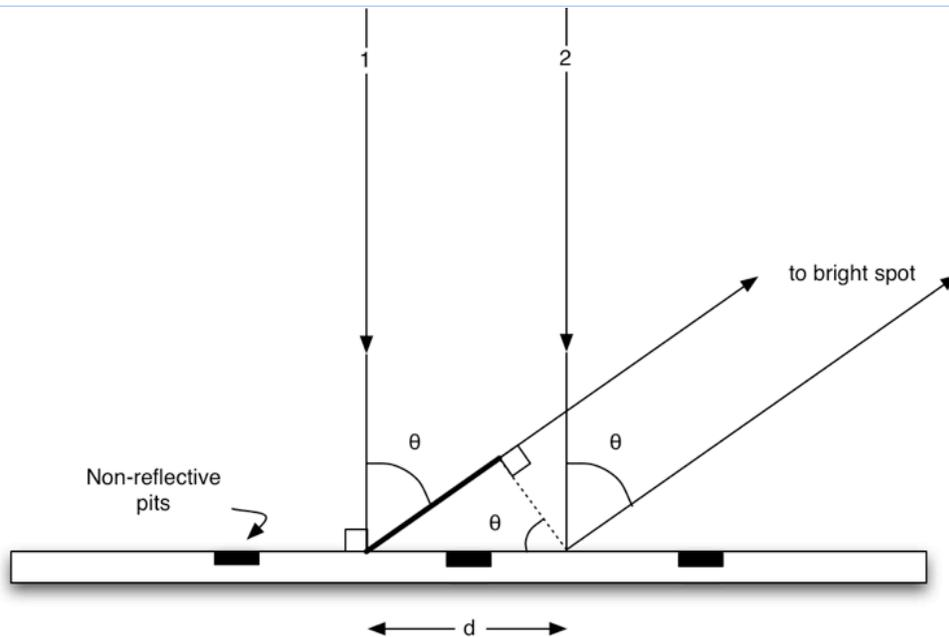

Figure 6
- g. A close-up of the situation is shown in figure 6 (not to scale):